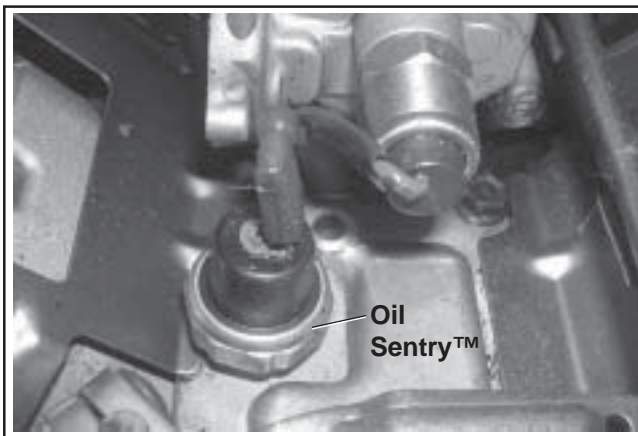

Figure 6-9. Oil Sentry™ Location.
The Oil Sentry™ pressure switch is installed into the breather cover. See Figure 6-9.
2. Install the switch into the tapped hole in the breather cover. See Figure 6-9.